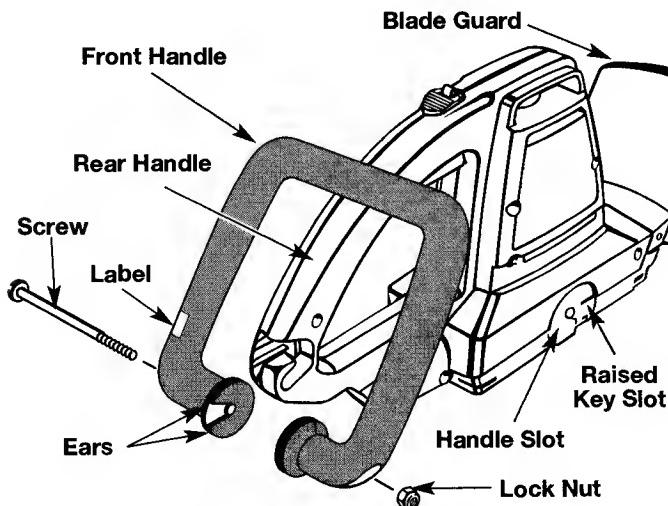

Fig. 1
- Orient front handle so that the side with the label will be located on the left side of your hedge trimmer (Fig. 1).
- Place the front handle parallel to the blade guard of your hedge trimmer as shown in figure 1, then fit the ears of the front handle into the handle slots on the motor housing.